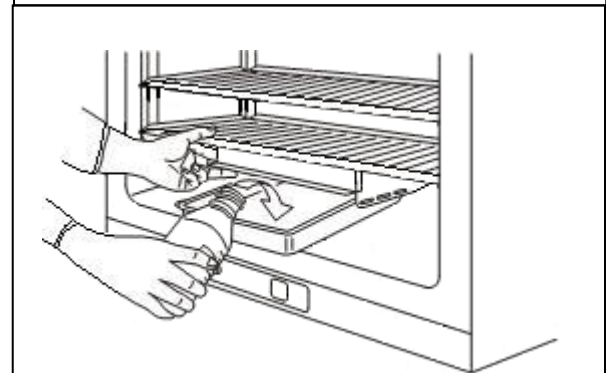

Fig. 3
5. Return the humidifying pan to the chamber and pour sterile distilled water (approx. 1.5 L, preheated to 37 °C). (Fig. 3)